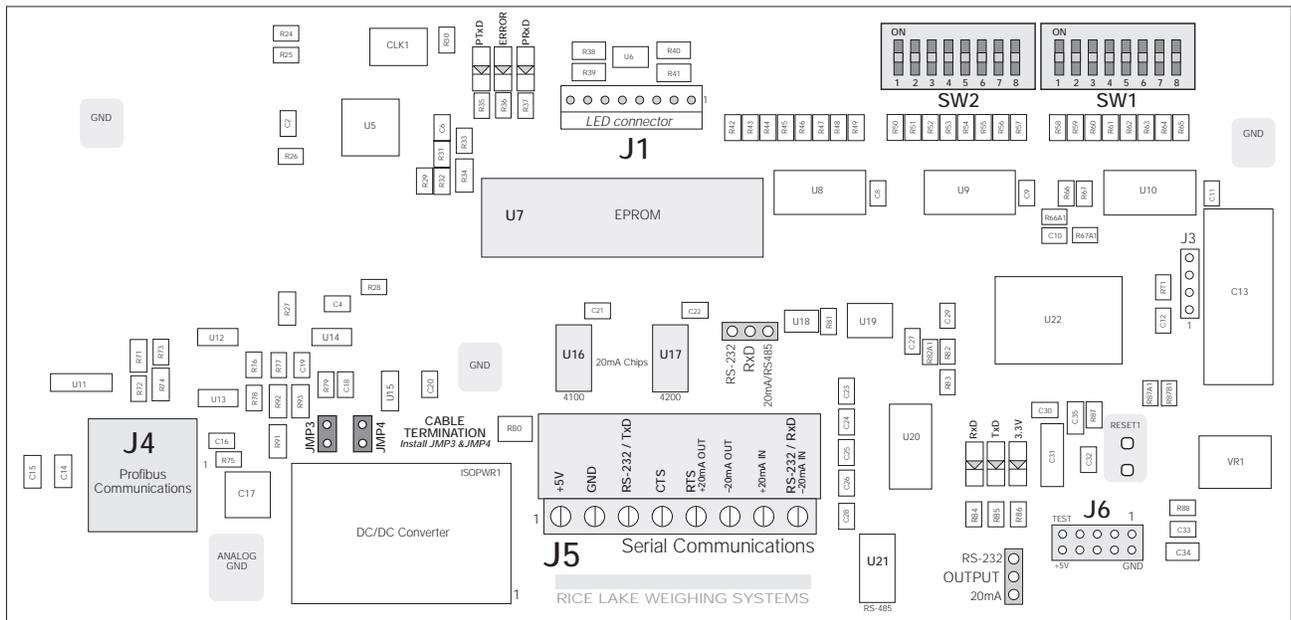
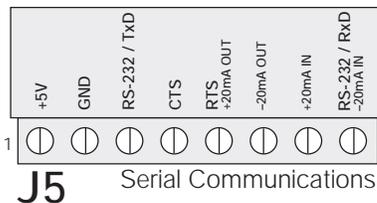

Figure 2-1. Profibus Indicator Interface Board
Figure 2-6. *Serial Communications Connections*
14. Connect serial communications wires from the indicator J4 (or J12) serial connector to the J5 connector on the Profibus Indicator Interface board (see Table 2-1 below and Figure 2-6 on page 6).
21. If the interface is the last device on the network bus, install termination jumpers JMP3 and JMP4 (see Figure 2-1).
The Profibus board (see Figure 2-1) is mounted on brackets above the indicator CPU board. Connections between the two boards are as follows:
Two jumpers, labeled *RxD* and *OUTPUT*, determine whether the Profibus Indicator Interface uses RS-232 or 20 mA current loop (available as an option for IQ plus 800/810 indicators only) for serial communications with the indicator. Leave the jumpers in the position shown in Figure 2-5 for RS-232 communications. See Figure 2-1 on page 3 for board location of the jumpers.
Serial communications connections to the indicator are made at connector J5 on the Profibus board (see Figure 2-1 on page 3 for board location of J5). Figure 2-6 shows the J5 connector layout for the Profibus Indicator Interface. Table 2-1 on page 2 shows the serial communications connections between the Profibus Indicator Interface and the IQ plus 510/710 indicators.
Connections to the Profibus network are made at connector J4 on the Profibus board (see Figure 2-1 on page 3 for board location of J4). Table 2-3 shows the connections from J4 connector on the Profibus board to the DB-9 Profibus connector.
If the Profibus Indicator Interface is the last device on the network bus, install jumpers JMP3 and JMP4 on the Profibus board (see Figure 2-1 on page 3 for jumper locations).